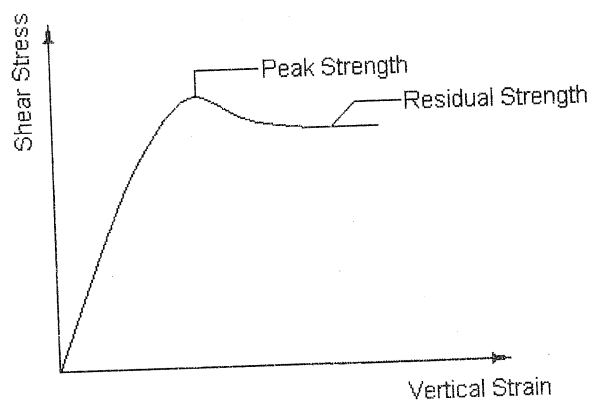

Figure Q6(e)
- e) Figure Q6(e) represents the typical stress-strain behaviour observed for a soil. Explain Assumption No. IX based on observed stress-strain behaviour of soils. (4 points)